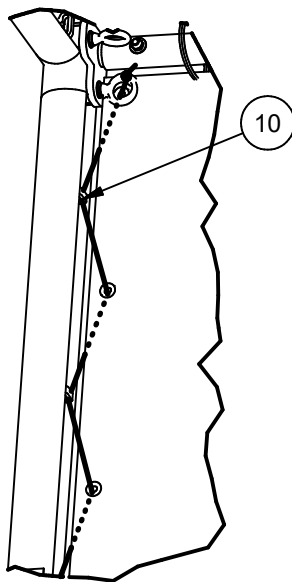

FIGURE E-6
11. As with the rear cover, start by tying off the upper end of the rope to the inside eyebolt using a square knot, and continue by inserting a net clip between each grommet, leaving about ½" gap between the edge of the cover, and the face of the net clip/edge of the upright and frame leg as shown in Figure E-6.